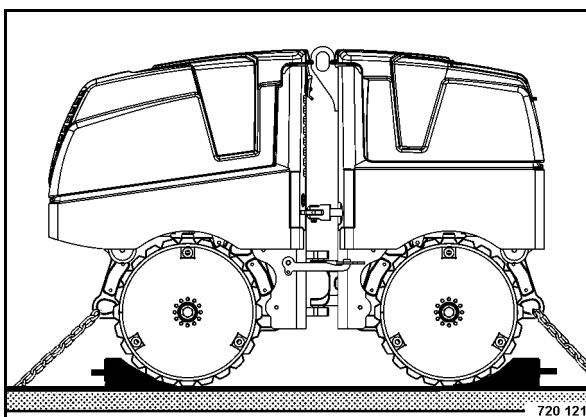

Fig. 88
- Drive the machine onto the transport vehicle and lash it down by the two lashing eyes (Fig. 88).